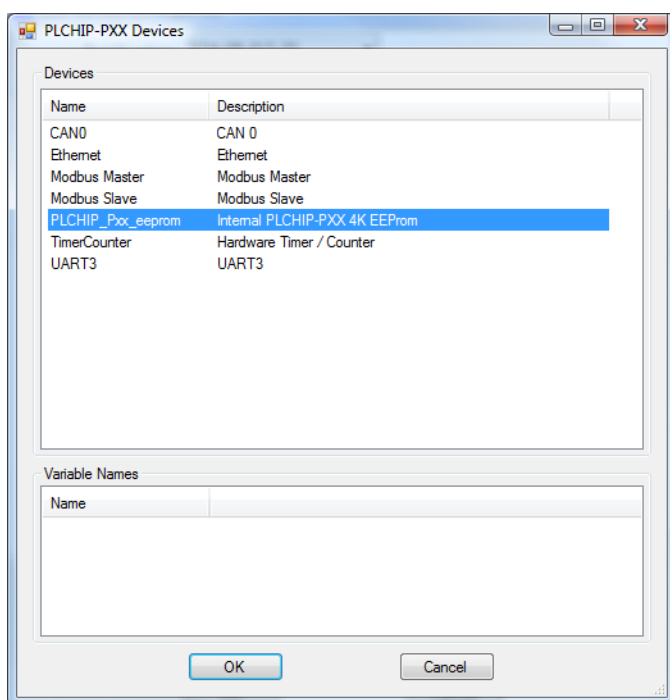

Figure 2-33 - PLCHIP-PXX Devices - EEPROM
4. Click the **PLCHIP_Pxx_eeprom** device (highlight) and click **OK**. Refer to Figure 2-33.